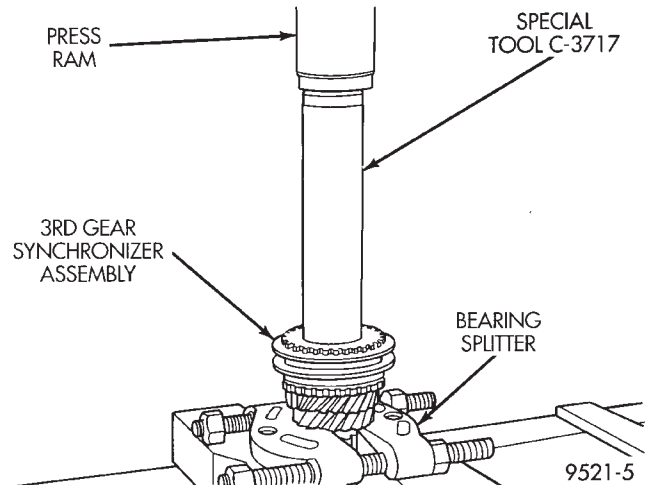

Fig. 99 Press On 3rd Gear Synchronizer Hub
(1) Place input shaft into shop press.
(2) Install 3rd gear caged needle bearing on input shaft.
(3) Install 3rd gear and 3-4 synchronizer onto input shaft. Install Tool #C-3717 over input shaft and press on synchronizer hub and 3rd gear (Fig. 99). The synchronizer hub has the letter **U** stamped on